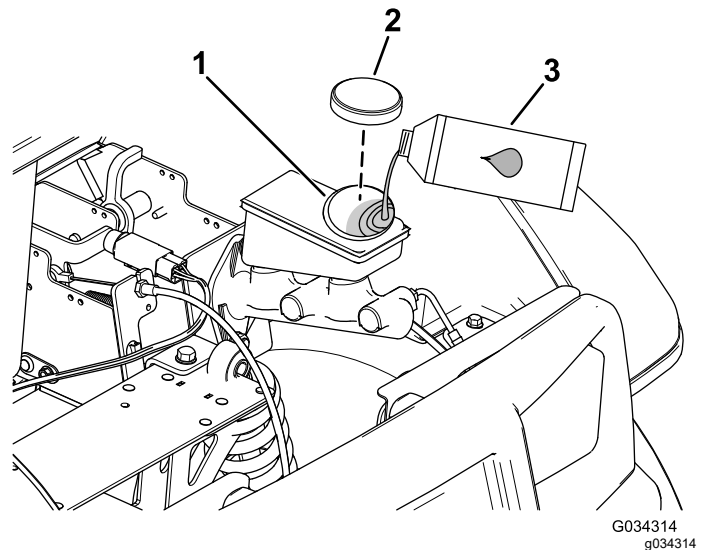

Figure 51
2. Raise the hood to gain access to the master-brake cylinder and reservoir (Figure 51).
- A. Clean the area around the reservoir cap and remove the cap (Figure 51).
- C. Install the reservoir cap (Figure 51).